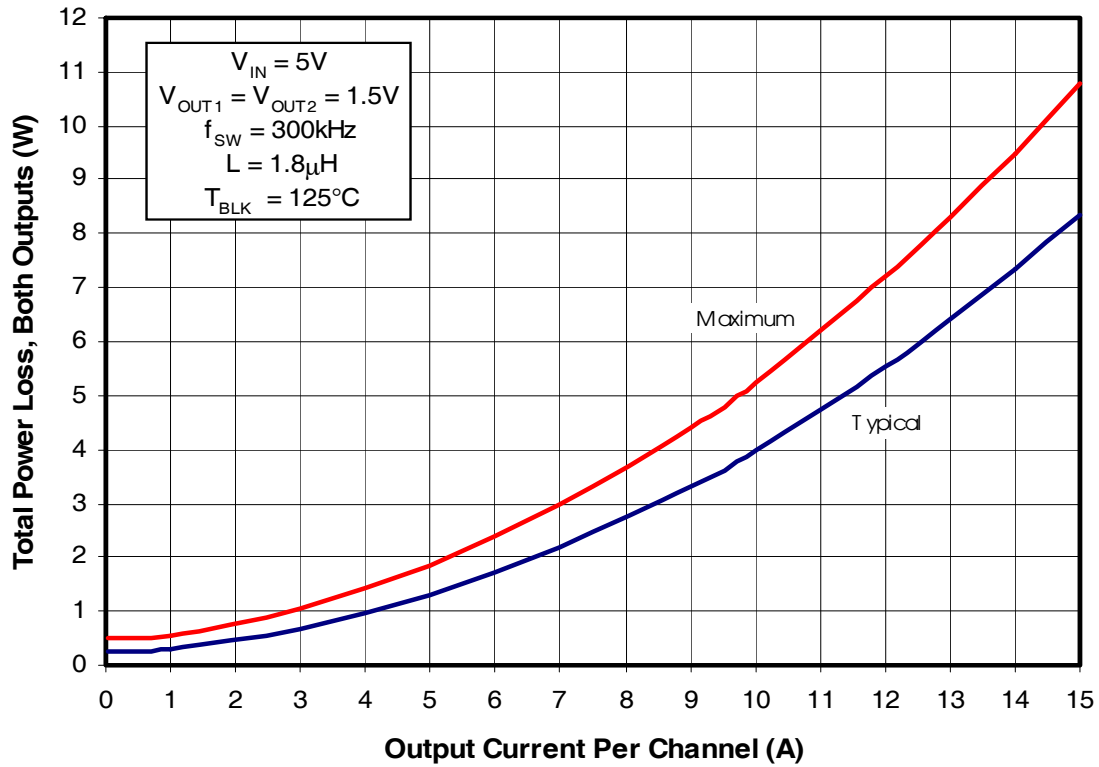
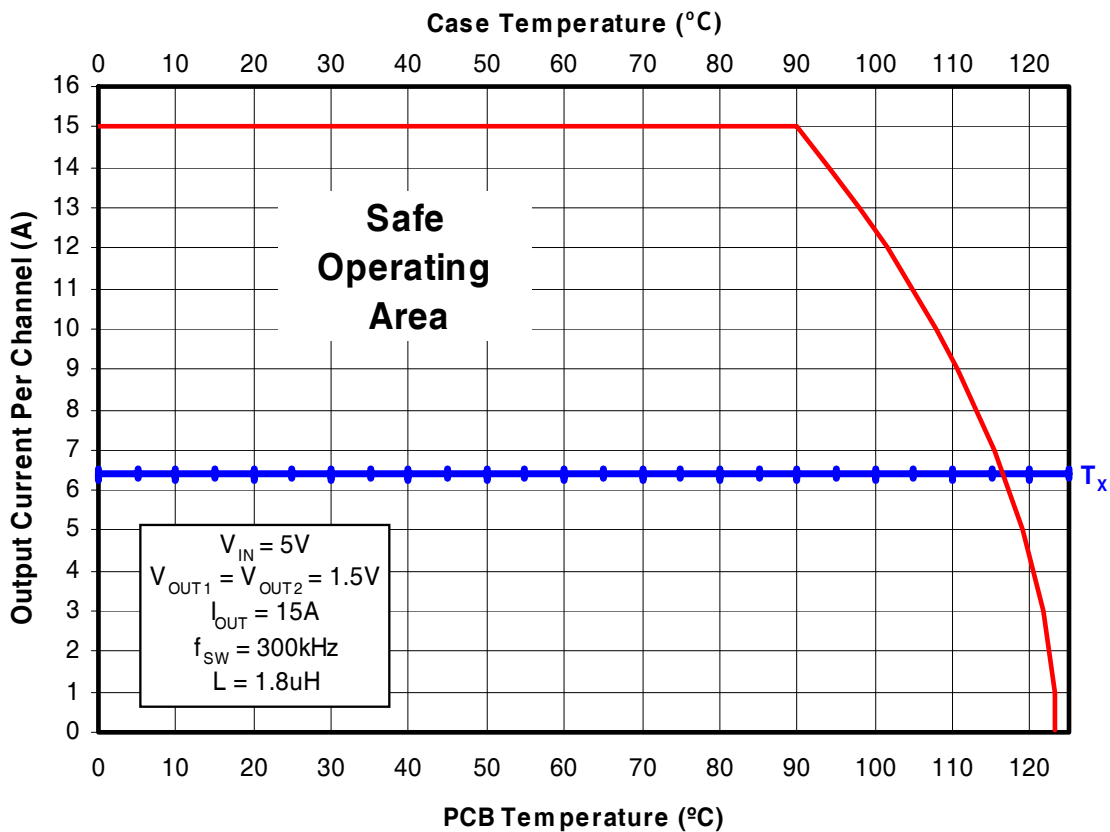
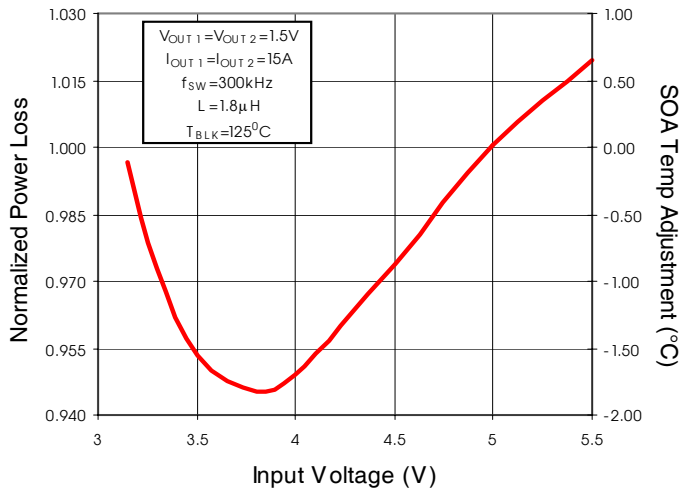

Fig. 2: Power Loss vs. Current
Fig. 3: Safe Operating Area (SOA) vs. T_{PCB} & T_{CASE}
Fig. 4: Normalized Power Loss vs. V_{IN}
To make adjustments to the power loss curves in Fig. 2, multiply the normalized value obtained from the curves in Figs. 4, 5, 6 or 7 by the value indicated on the power loss curve in Fig. 2. Remember that the power loss in Fig 2. is the power loss for 2 outputs operating with the same output voltage. If differing output voltages are used the initial power loss for each channel needs to be divided by 2. Then if multiple adjustments are required, multiply all of the normalized values together, then multiply that product by the value indicated on the power loss curve in Fig. 2. The resulting product is the final power loss based on all factors. See example no. 1.
To make adjustments to the SOA curve in Fig. 3, determine your maximum PCB Temp & Case Temp at the maximum operating current of each iP1201. Then, add the correction temperature from the normalized curves in Figs. 4, 5, 6 or 7 to the T_x axis intercept (see procedure no. 2 above) in Fig. 3. When multiple adjustments are required, add all of the temperatures together, then add the sum to the T_x axis intercept in Fig. 3. See example no. 2.
- Output1 (Fig. 2) Maximum power loss = 5.3W /2 = 2.65W
(Fig. 4) Normalized power loss for input voltage \approx 0.97
- Output2 (Fig. 2) Maximum power loss = $8.25W / 2 = 4.13W$
- (Fig. 4) Normalized power loss for input voltage ≈ 0.97
- Output1 (Fig. 4) Normalized SOA Temperature for input voltage $\approx -1.0^{\circ}C$
- Output2 (Fig. 4) Normalized SOA Temperature for input voltage $\approx -1.0^{\circ}C$